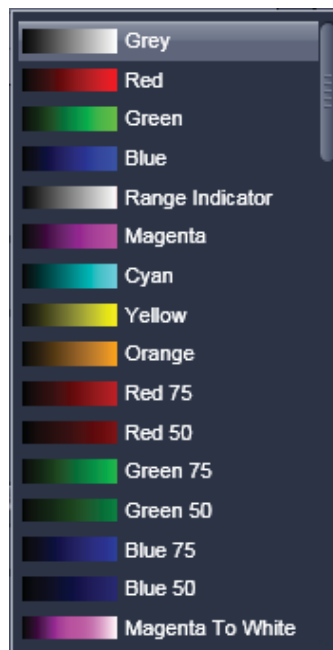

Fig. 4-40 Drop down menu for selection of the channel color
- To assign a specific color to the image of a channel click onto the color icon and select a color from the drop down menu (Fig. 4-40).